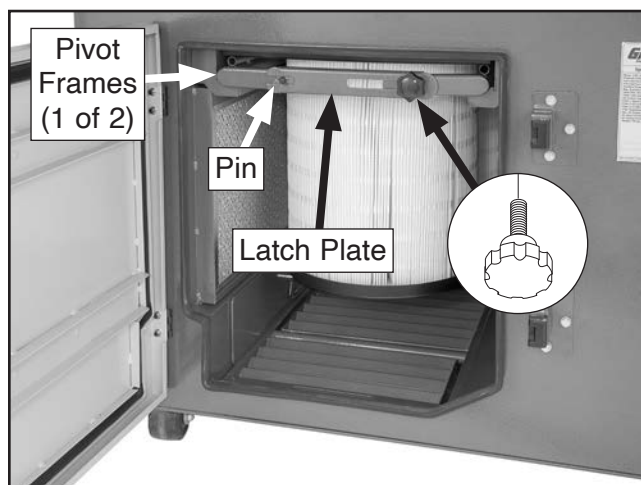

Figure 55. Canister filters secured in machine.
10. Install canister filters in machine, then move pivot frames up and slide latch plate left until it engages pin (see **Figure 55**).
11. Tighten knob shown in **Figure 55** to secure filters.